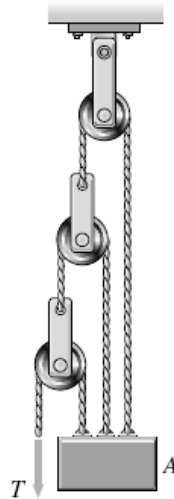

Figure Q2[a]
- Q2. [a]** Figure Q2[a] shows the mass of each pulley of the system is “ m ” and the mass of the suspended object A is “ m_A ”. Determine the force T necessary for the system to be in equilibrium.